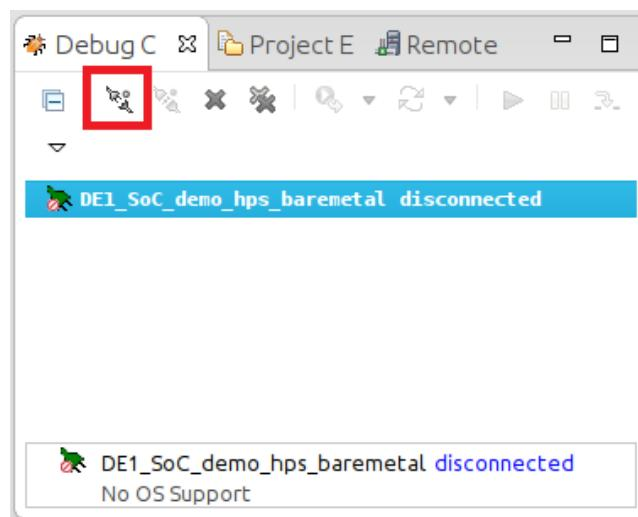

Figure 12-13. Debug Control View
21. In the "Debug Control" view, click on the "DE0_Nano_SoC_demo_hps_baremetal" entry, then click on the "Connect to Target" button, as shown on Figure 12-13. Our debug script will load and execute the preloader, then it will load and wait at our application's "main()" function.